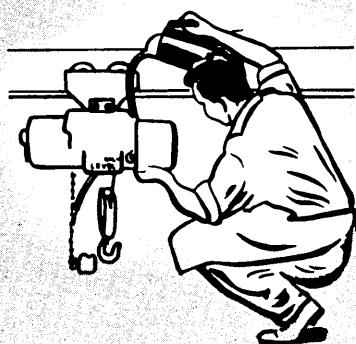

Fig. 8
After hanging, but before operating the hoist, carefully add oil to the gear housing (see figure 8) as follows: Remove the two plugs (1 and 2 in Fig. 4) on the housing flange. Through the top hole (1) fill with a medium motor oil (SAE 20 or 30 is recommended for normal service and SAE 10 for outside winter service) until the oil supply is visible in the lower hole (2) marked "Oil Level". The normal oil requirement of the J-1 hoist is 1-1/2 quarts; the J-2 and J-3 hoists each require 2 quarts. Replace the plugs and wipe all excess oil from the housing. By maintaining the proper oil level in the case, lubrication problems are eliminated. All open bearings in the gear case are splash lubricated. One shaft bearing and the motor, trolley wheel and sheave bearings are the permanently double-sealed, prelubricated type which are packed with adequate grease for years of rugged hoisting duty. Oil may be added to the trolley drive motor as follows: Remove the oil fill and oil level plugs from the trolley drive motor gear housing. Through the top hole fill with a medium motor oil. (SAE 20 or 30 is recommended for normal service and SAE 10 for outside winter service.)